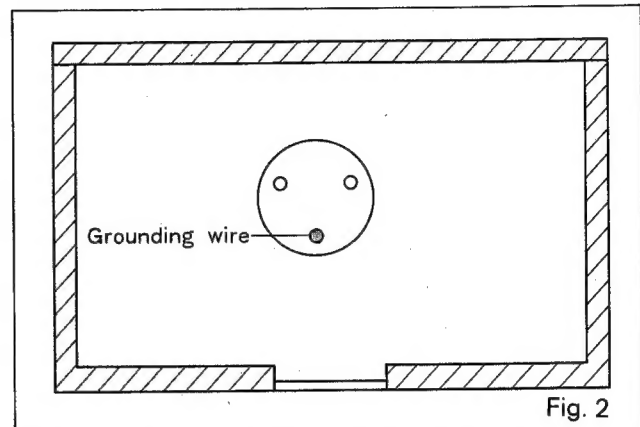
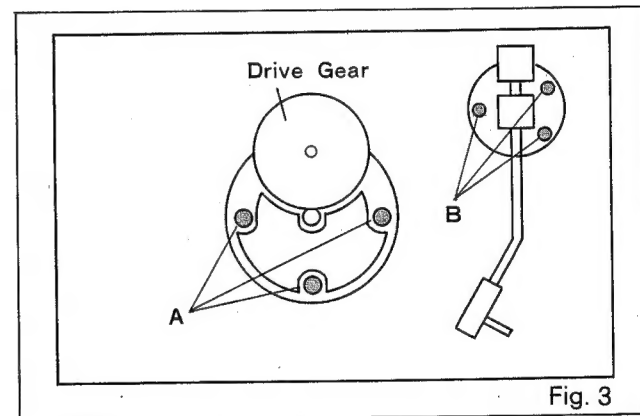

Fig. 2
Fig. 3
- (2) Remove the return plate ⑩ and return arm ⑧.
- (3) Disconnect with a nipper the lead wires of servo controller circuit board except for one from motor.
- (4) Remove the servo controller circuit board from the P.C.B. mounting spacer ⑧7.
- (5) Disconnect with a nipper the grounding wire of motor (Fig. 2).
- (6) Place the set on a suitable bench with the surface of chassis upward.
- (7) Remove the drive gear ⑤.
- (8) Remove the three screws A which fasten the motor. (Fig. 3)
- (1) Remove the return plate. ⑩
- (2) Remove the shield case ③9, disconnect from the shield connector plate the lead wires coming from the tone arm and remove the wirings.
- (3) Loosen the screw ②18 which is placed in the tone arm fixing plate and remove the tone arm fixing plate ④0.
- (4) Remove the tone arm mounting nut ①56.
- (5) Place the set on a suitable bench with the surface of chassis upward.
- (6) Remove the three screws B described in Fig. 3.
- Loosen the screws A in Fig. 3 which hold the motor.
- Yes: Loosen three screws (Fig. 3) which fasten the motor shaft, and adjust.